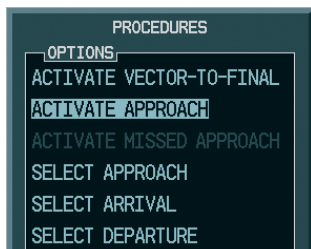

Figure 7-45 Manually Activate Approach
- Turn the large **FMS** Knob to highlight 'ACTIVATE APPROACH' as shown in Figure 7-45.